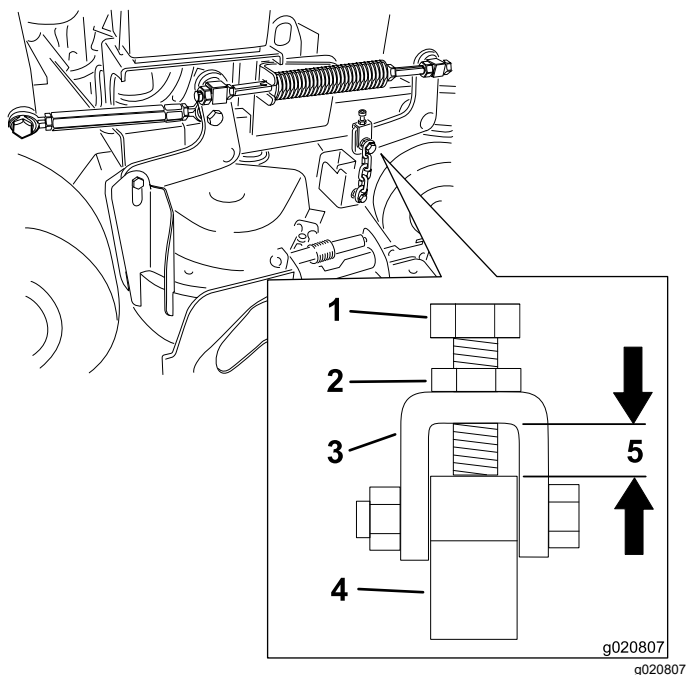

Figure 82
Note: This distance needs to be 11 mm (7/16 inch) as shown in Figure 82.
6. If adjustment is needed, loosen the upper chain bolt (Figure 82).
7. Loosen the jam nut and adjust the adjustment bolt to achieve the correct distance as shown in Figure 82.